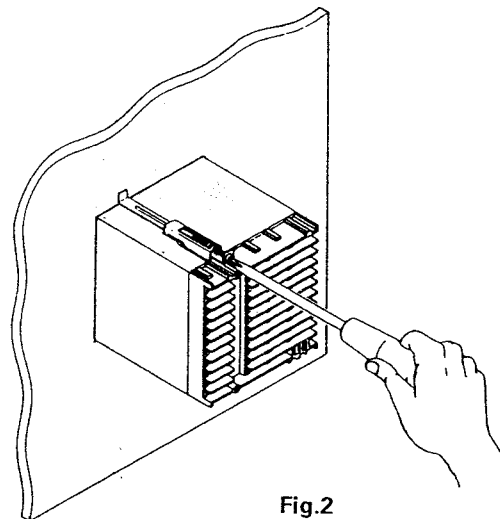

Fig.2
- ④ Then tighten the mounting bracket setscrew from the rear with a Phillips screwdriver (Fig. 2). Do not overtighten the bracket setscrew.
- ⑤ Install a mounting bracket also at the bottom of the case in the same way as ③ and ④ above.